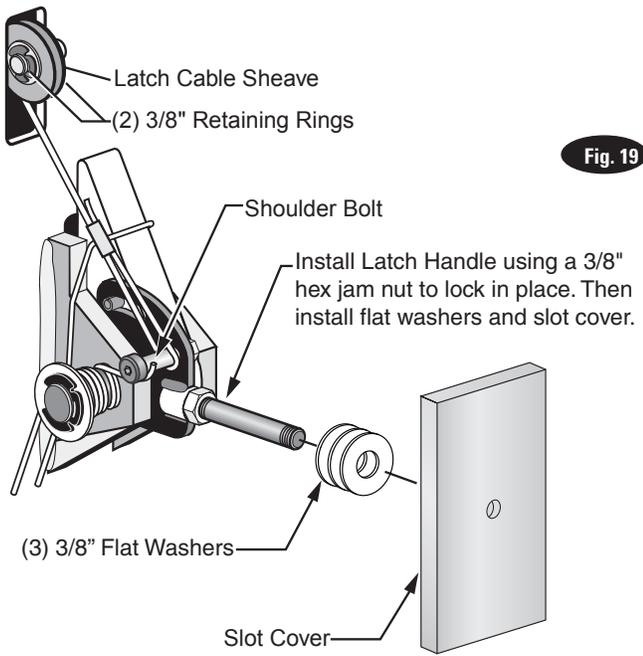
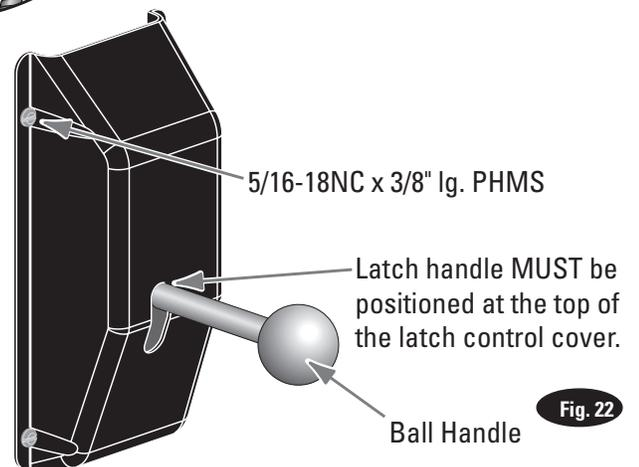

Fig. 19
Fig. 22
- A) Install latch cable sheave and retaining rings in upper slot of power unit column as shown, Fig. 19.
- B) Slip loop end of cable over end of shoulder screw on right side latch control plate, Fig. 19.
- C) Feed the other end of the cable through the latch cable sheave slot making sure that the cable is running under the bottom side of the latch cable sheave and inside the right column, Fig. 19.
- I) At this point you **MUST** install the latch handle, jam nut, and right column latch cover Fig. 19 & Fig. 22. Install latch handle ball, Fig. 22.